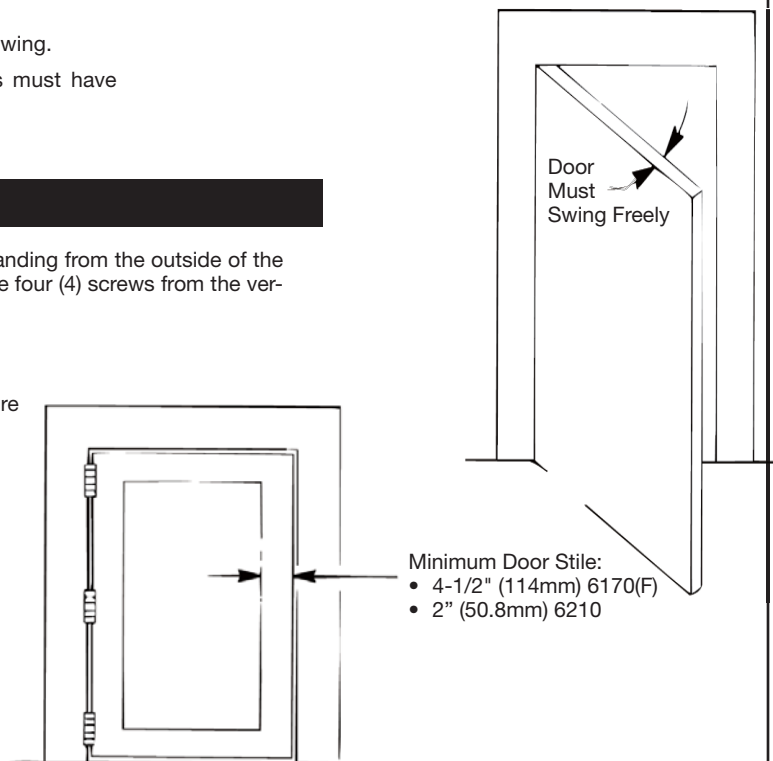
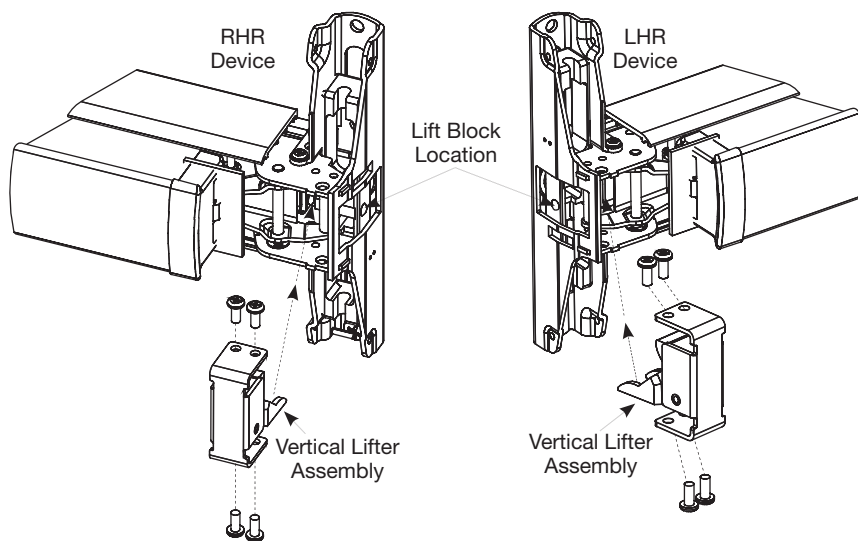

Figure 3: Lock Handing Determination
Figure 4: Device Assembly Showing Lift Block Assembly (Cover Removed)
1. Lock handing is pre-determined by order. Always determine handing from the outside of the door as shown in Figure 3. To change lock handing, remove the four (4) screws from the vertical lifter assembly and remove from the device (Figure 4).